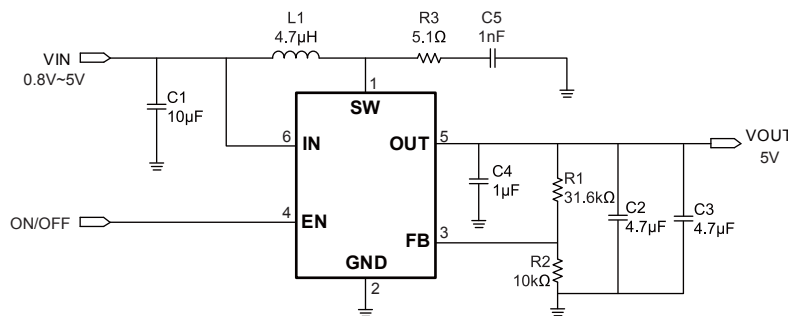

Figure2— $V_{OUT}=5V$ Typical Application Circuit
When the chip is used in $V_{OUT}=5V$ condition, a RC snubber should be added to protect the MOSFET from over voltage. The recommended parameters are $R3=5.1\Omega$, $C5=1nF$. The circuit can be seen in Figure 2.
- 1) The output capacitor should be placed as close as possible to IC and forms a smallest loop with IC SW and GND pins. as C4 shown in figure2.